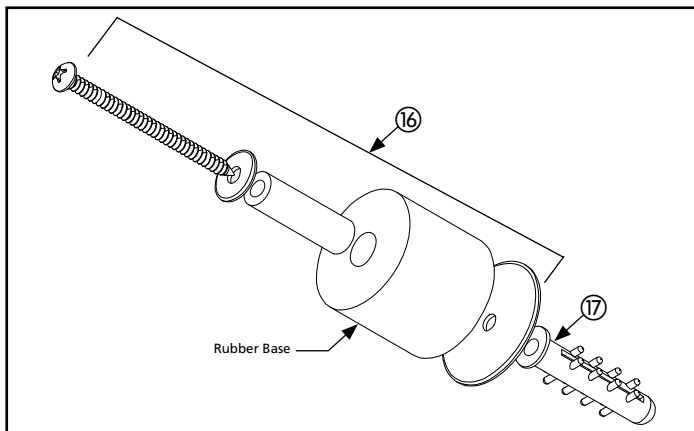

Figure 19. Floor Guide Assembly
4. Assemble the floor guide ⑯ (if not pre-assembled) as shown in Figure 19. If installing into concrete, use floor anchor ⑰ in pre-drilled hole.